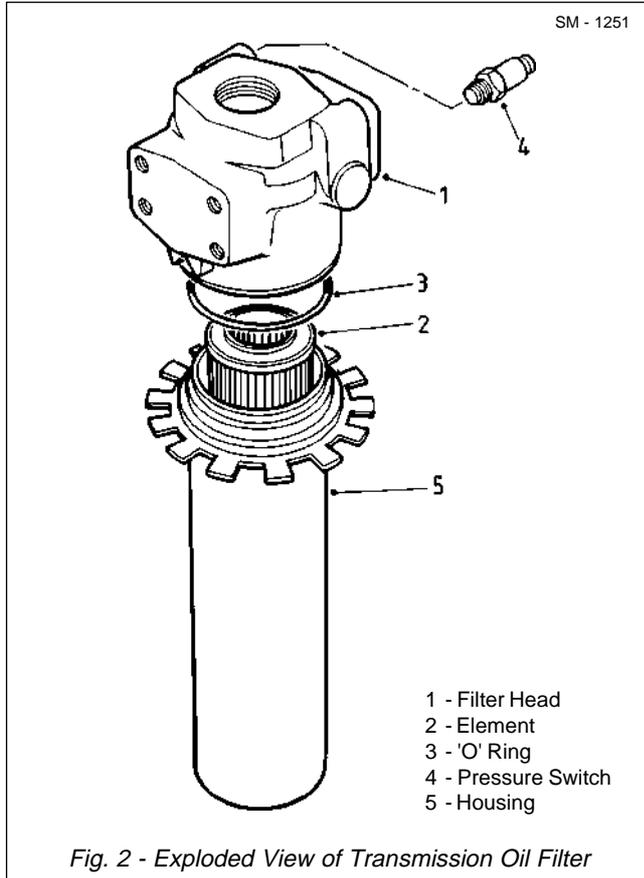

Fig. 2 - Exploded View of Transmission Oil Filter
Numbers in parentheses refer to Fig. 1. Refer to Fig. 2 for location of parts within housing (12).
1. With housing (12) in position with steering pump mounting face up, press bearing (2) into bearing bore in housing (12).
2. Install snap ring (3) onto output shaft (4).
3. Position driven gear (5) in housing (12) and slide output shaft (4) through driven gear (5). Press output shaft (4) into bearing (2), if necessary.
4. Press bearing (14) onto opposite end of output shaft (4) and install snap ring (1). Be sure bearing (14) is seated against output shaft (4) shoulder, with shielded side of bearing facing toward snap ring (1) (facing out).
5. Rotate driven gear (5) and check for any visible signs of drag.
6. Press bearings (9) into bearing bores of pinion gear (10). Be sure bearings are seated against shoulder in pinion gear.
7. Position pinion gear (10) and bearings (9) assembly in housing (12). Install a new 'O' ring (7) on pinion shaft (8). Insert pinion shaft (8) through pinion gear (10) and bearings (9), lining up set screw hole in pinion shaft (8) with set screw hole in housing (12).
8. Install and stake set screw (11) in housing (12).
9. Install pipe plug (13) in the end of pinion shaft (8).
Numbers in parentheses refer to Fig. 2, unless otherwise specified.
4. Tag filter inlet line (2) and filter outlet line (3) to aid in installation and disconnect from filter assembly (1). Cap open line ends and fittings to prevent entry of dirt.
5. Support filter assembly (1) and remove bolts (6) and lockwashers (7) securing filter assembly (1) to mounting bracket on the right hand frame rail. Remove filter assembly (1) and drain oil from assembly into a suitable container.
6. If filter assembly (1) is being replaced, remove adaptors (4) to use on new filter assembly (1).
7. If filter element (2, Fig. 2) is only being replaced, disassemble filter assembly (1) and replace element (2, Fig. 2) as described under 'Changing Filter Element'.
8. If required, remove filter inlet line (2) and filter outlet line (3) from the transmission. Cap open line ends and fittings to prevent entry of dirt.
9. If required, remove bolt (8), nut (9), lockwasher (7) and clips (5) securing filter inlet line (2) and filter outlet line (3) together.
1. If new filter assembly (1) is being fitted, install adaptors (4) in filter head (1, Fig. 2).
2. Position filter assembly (1) to mounting bracket on the right hand frame rail and secure with bolts (6) and lockwashers (7).
3. If filter inlet line (2) and filter outlet line (3) were removed, remove blanking caps and install lines on adaptors (4) in the transmission, as tagged during removal.
4. Remove blanking caps and connect filter inlet line (2) and filter outlet line (3) to filter assembly (1), as tagged during removal.
5. If removed, secure filter inlet line (2) and filter outlet line (3) together with clips (5), bolt (8), lockwasher (7) and nut (9).
Numbers in parentheses refer to Fig. 2.
5. Support filter assembly (1) and remove bolts (6) and washers (7) securing filter assembly (1) to mounting bracket on the right hand frame rail. Remove filter assembly (1) and drain oil from assembly into a suitable container.
2. Position filter assembly (1) to mounting bracket on the right hand frame rail and secure with bolts (6) and washers (7).
3. If filter inlet line (2) and filter outlet line (3) were removed, remove blanking caps and install lines on elbows (5) in the transmission, as tagged during removal.
4. Remove blanking caps and connect filter inlet line (2) and filter outlet line (3) on adaptors (4) on filter assembly (1), as tagged during removal.